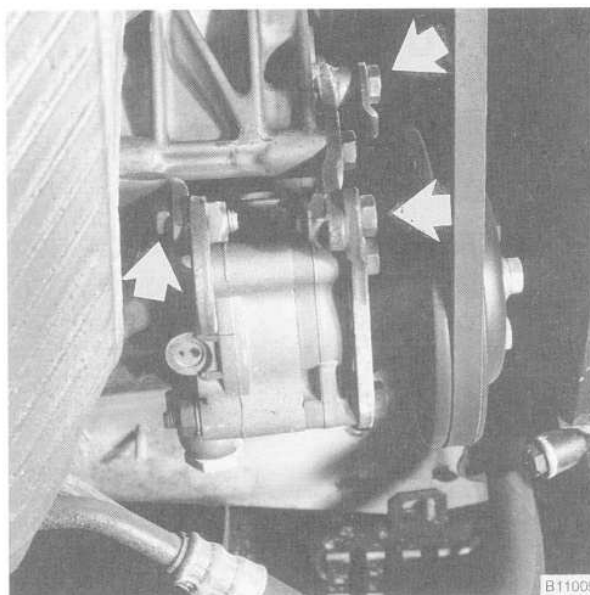

Fig. 3. Power steering pump mounting bolts (arrows).
11. Remove the power steering pump V-belt and remove the pump from its mounting bracket. See Fig. 3. Use stiff wire to hang the pump from the body.